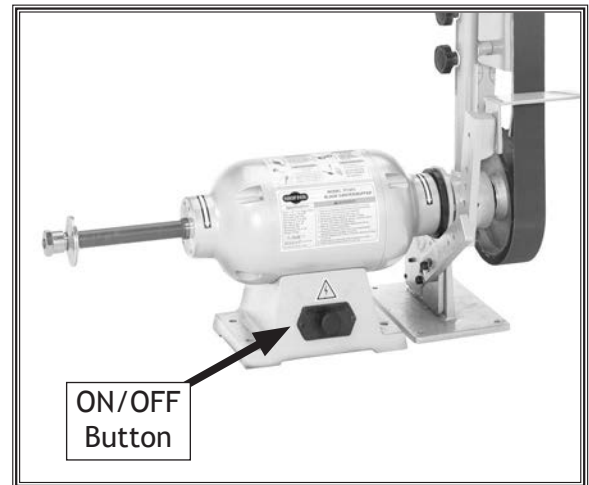

Figure 17. Location of ON/OFF button.
2. Make sure the ON/OFF button (see **Figure 17**) is pushed *in*, then connect the machine to power.